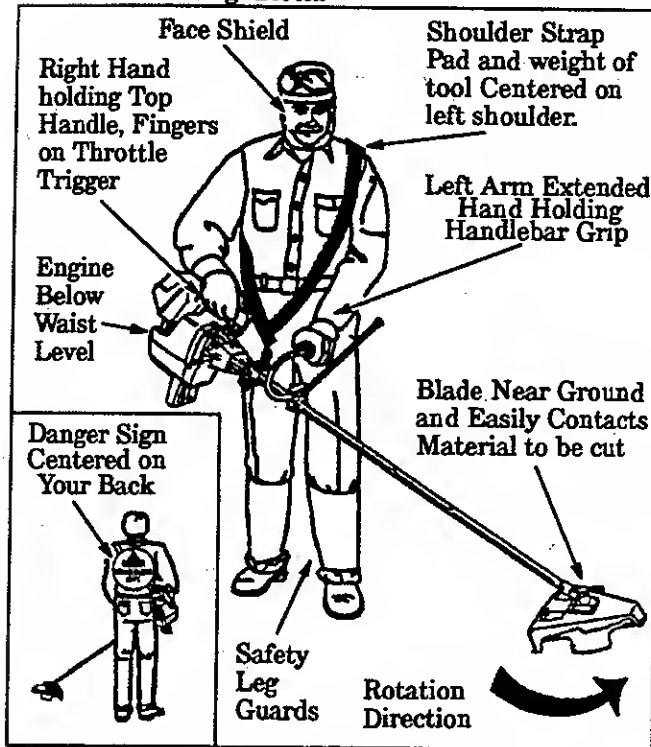

Figure 8
- b. Place Shoulder Strap on your left shoulder with the Danger Sign on your back and hook to the right side of your waist. Figure 8.
- d. Fasten the Shoulder Strap hook to the clamp and lift the tool to the operating position. Figure 8.